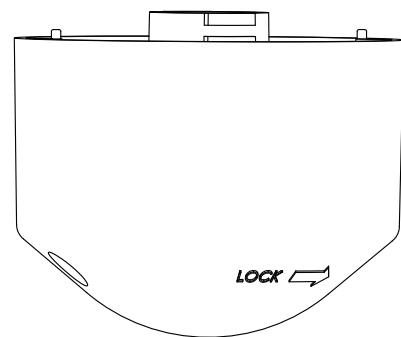

FIGURE 12: Setting The Height Of Your Cut With Bump Heads.
The height of the cut can be set using three different height bump heads. The recommended cutting height for the average yard is two (2) inches. **SEE FIGURE 12**